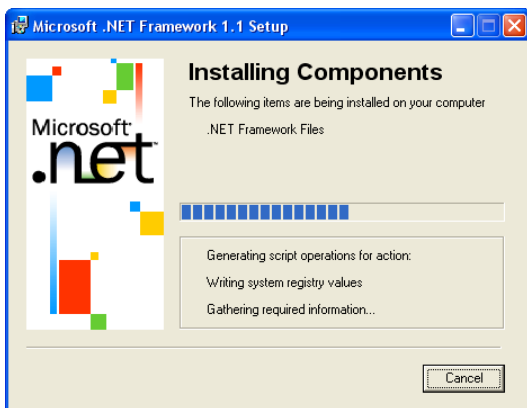

Figure 9: Microsoft .NET Installation Progress
7. Microsoft .NET begins installation (see Figure 9).